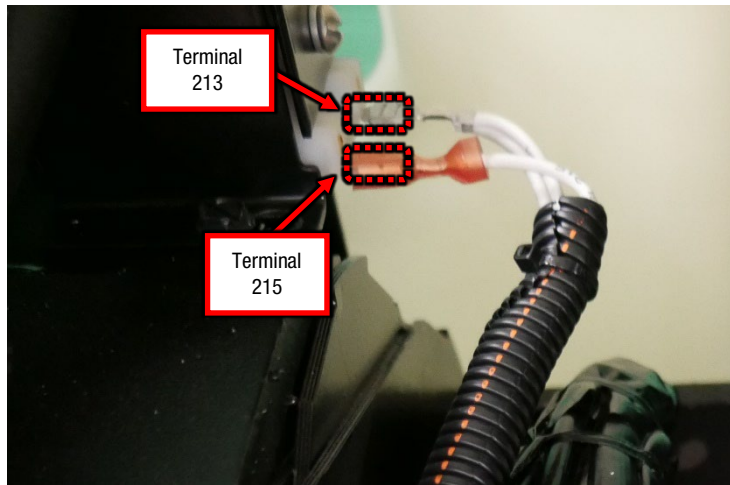

Figure F.3
- A.3. Perform the static measurements in Test Table 1, refer to Figure F.3 for test point locations on the Idle Solenoid. **NOTE: LEADS 213/213A AND 215 ARE REMOVED FOR TESTING.**